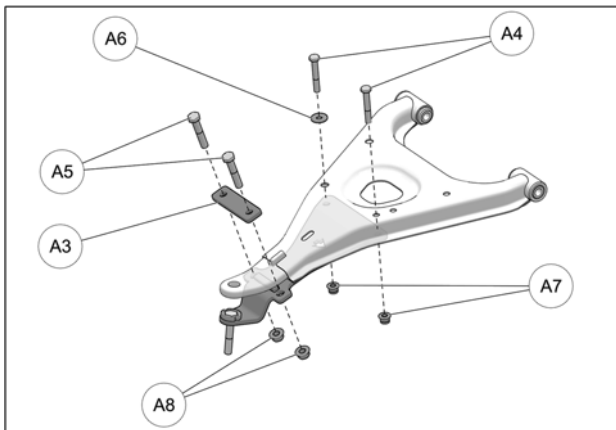

Fig. 18
11. Position bracket cover (A3) over suspension arm and align holes in cover and bottom part. Insert M10x55mm bolts (A5) through top and secure the two parts together with M10 nuts (A8) provided. Insert M8x55mm bolts (A4) through top, with washer (A6) on bolt that faces rear of vehicle, and secure the two parts together with M8 nuts (A7) provided. Tighten M10 nuts to 50 N•m [37 lb•ft] and M8 nuts to 25 N•m [18 lb•ft] of torque. Fig. 18